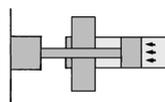

Fig. 1 $\eta = 0.7$ or more
- 1) Using the cylinder for stationary operation: load ratio $\eta = 0.7$ (Fig. 1)